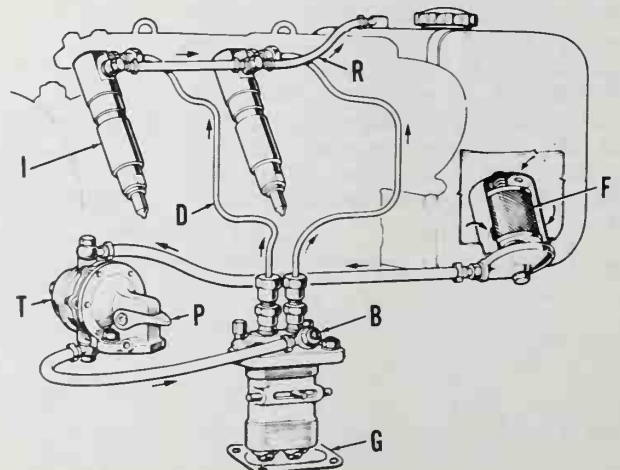
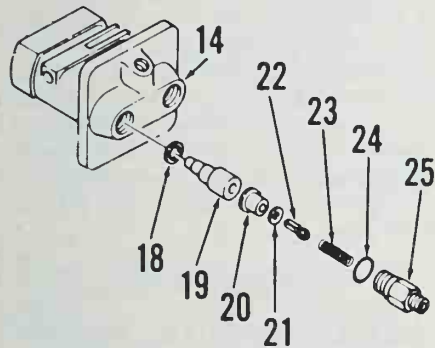
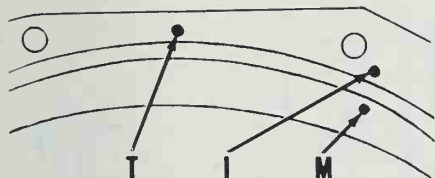

Fig. L4-3—Fuel circuit diagram.
Fig. L4-4—Partial exploded view of fuel injection pump.
Fig. L4-5—Drawing of flywheel timing marks used on some models.
BLEED FUEL SYSTEM. To bleed fuel system, remove fuel injection pump bleed screw (B—Fig. L4-3), then operate fuel pump primer lever (P) until air-free
Injection pump timing is adjusted using shim gaskets (G—Fig. L4-3) between pump body and mounting surface on crankcase. Injection should occur at 26° 45'–28° 30' before top dead center. To check injection pump timing, unscrew high pressure injection line of number 1 cylinder from injection pump delivery
valve holder (25—Fig. L4-4). Unscrew delivery valve holder (25) and remove spring (23) and delivery valve (22), then screw delivery valve holder (25) back into pump. Move throttle control to full speed position. Operate primer lever (P—Fig. L4-3) while rotating engine in normal direction (counterclockwise at pto) so number 1 piston is on compression stroke. Note fuel will flow out of delivery valve holder. Stop engine rotation at moment fuel ceases to flow. Timing marks (I and M—Fig. L4-5 or L4-6) should be aligned. To advance ignition timing, remove shim gaskets (G—Fig. L4-3); install shim gaskets to retard injection timing. Tighten injection pump retaining screws to 24.5 N·m. Reinstall removed pump parts after checking timing.